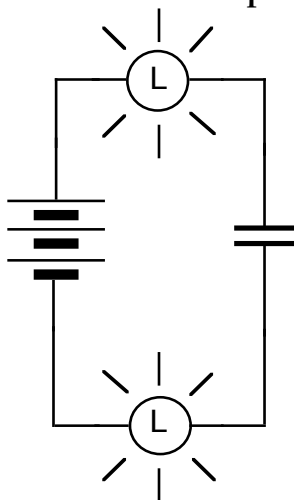
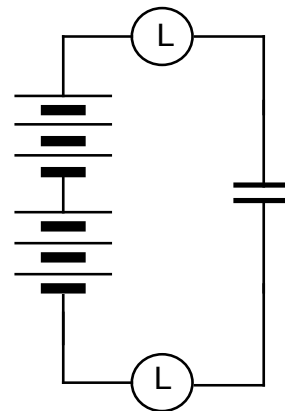

Figure 4.1a
Figure 4.1c
Charge a 25,000 μf capacitor through two long bulbs, using a 3-cell battery as shown in Figure 4.1a. Use a compass under one of the wires to monitor direction of flow.
1. Draw arrows on Figure 4.1a to show charge flow in all parts of the circuit while the bulbs are lit. Don't attempt to use arrowtails to show flow rate – just show directions.
Next, imagine that you have opened the circuit and placed a second battery pack in the loop as shown in Figure 4.1c. Don't actually do this right now. Just think about what might happen if the already-charged capacitor is suddenly connected to a stronger battery with 6 cells.
Now add the second battery pack as shown in Figure 4.1c, with the positive end of one battery pack connected to the negative end of the other one. Make sure the compass is under one of the wires.
4. Did the bulbs light? If they did, draw an arrow on Figure 4.1c to show the direction charge was moving everywhere during the second bulb lighting.
The teacher will now charge a capacitor with one battery pack as in Figure 4.1a, then add a second pack as in Figure 4.1c, and then add a third battery pack to the circuit.
6. Using the connected syringes, air provides a model for explaining the observed electrical behavior in the circuit of Figure 4.1c. What are a) the advantages, and b) the limitations of this model?